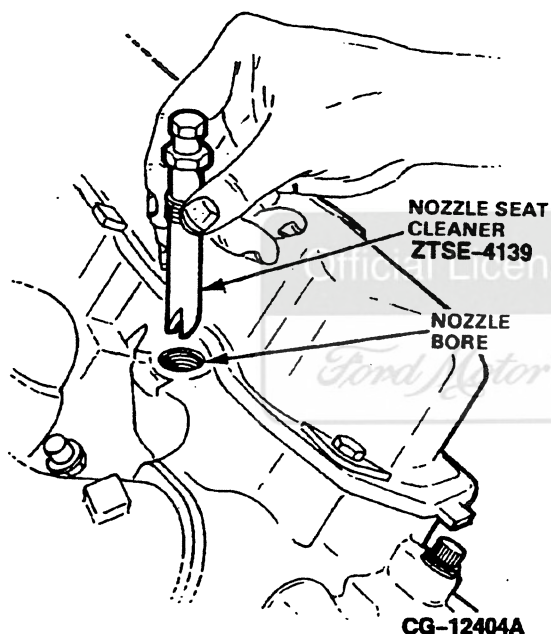

Figure 9.42. Cleaning Nozzle Seats with ZTSE-4139
2. Clean injection nozzle seats in cylinder head (Figure 9.42) using nozzle seat cleaner ZTSE-4139 as follows:
- Insert the threaded sleeve of the nozzle seat cleaner, into the nozzle bore of the cylinder head as shown in Figure 9.42.